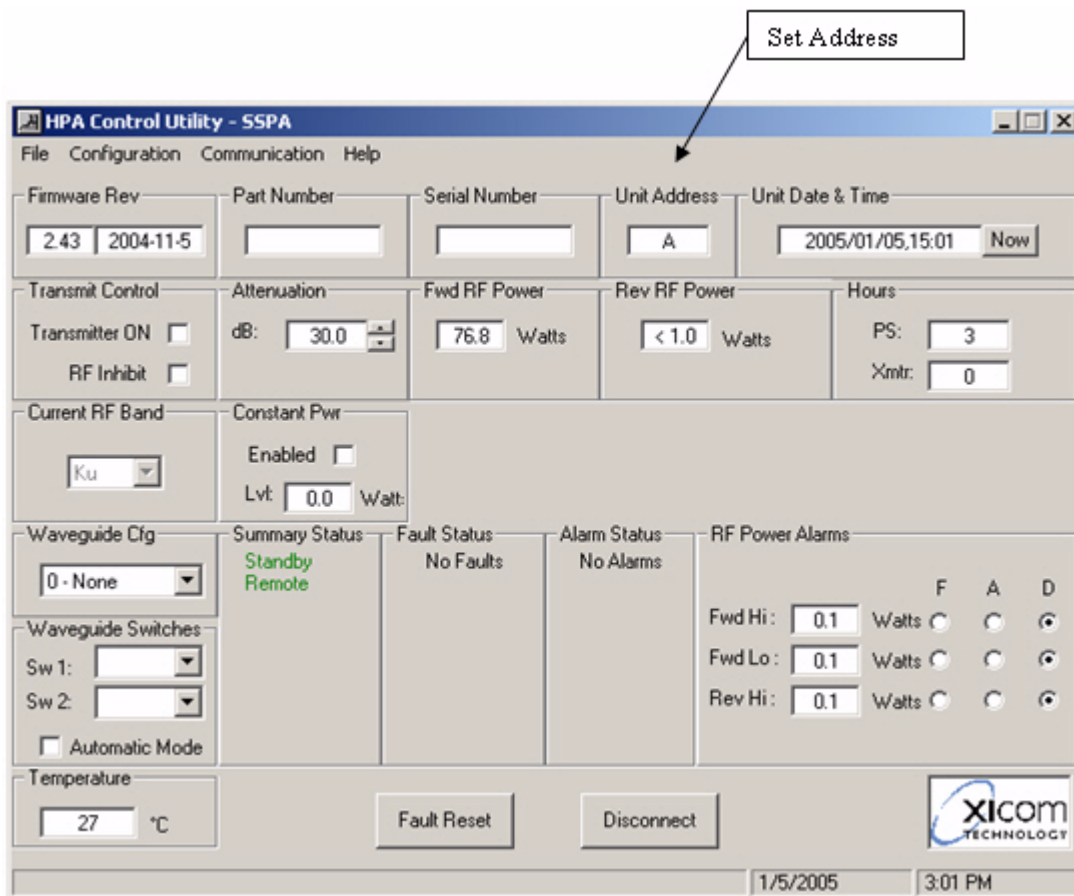

Figure 31, Select Address
4. Refer to Figure 31. Once connected, set the Unit Address. Each amplifier needs a unique address for RS-485 communication. (default is normally “A” unless set up as part of a system). If using RS232, it will talk to any unit it is directly connected to without an address.